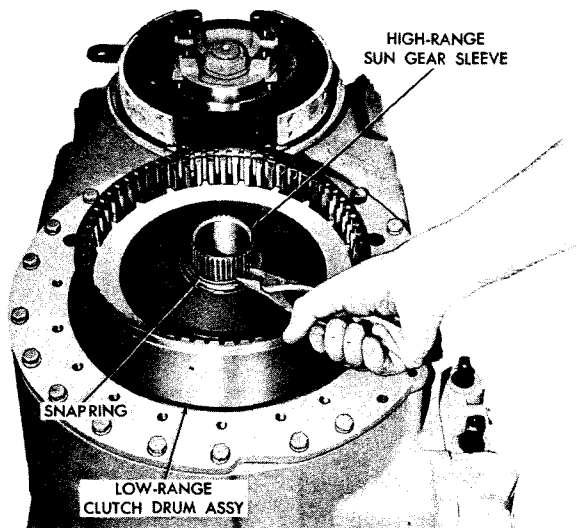

Fig. 5-23. Removing high-range sun gear sleeve snapping
(4) Remove the snapring from the splined sleeve (fig. 5-23).